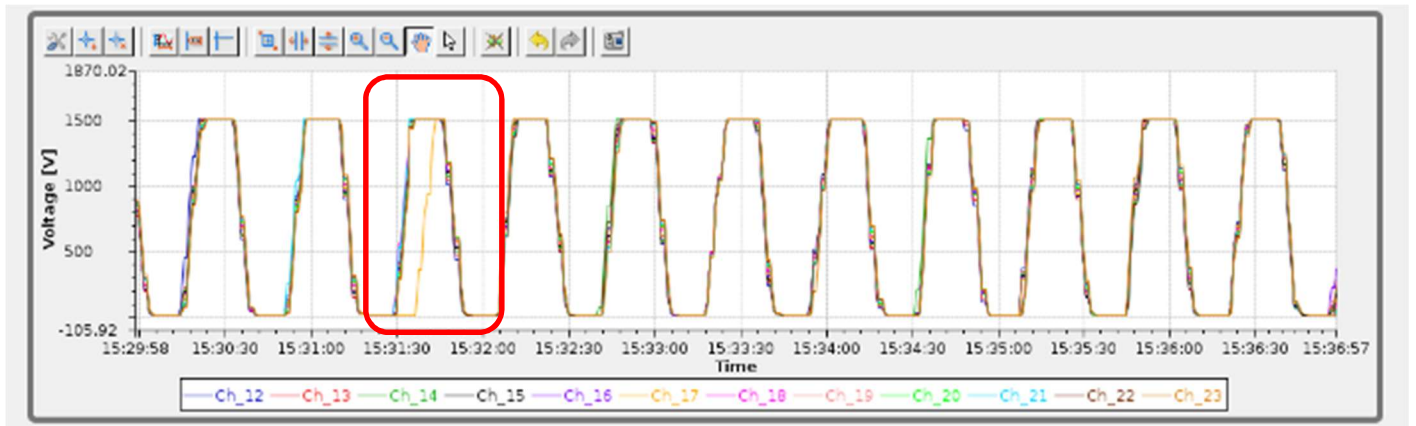

Fig.15 – Zoomed view of Voltage Ramp Test CSS-BOY screen shows channel 17 latency of 8 s to ramp up
3. Noticed that Pw PV readout for channel 17 had an update latency of ~ 8 s while ramping to set voltage, only in one cycle. This issue was recover by itself in next cycle. See fig.15.